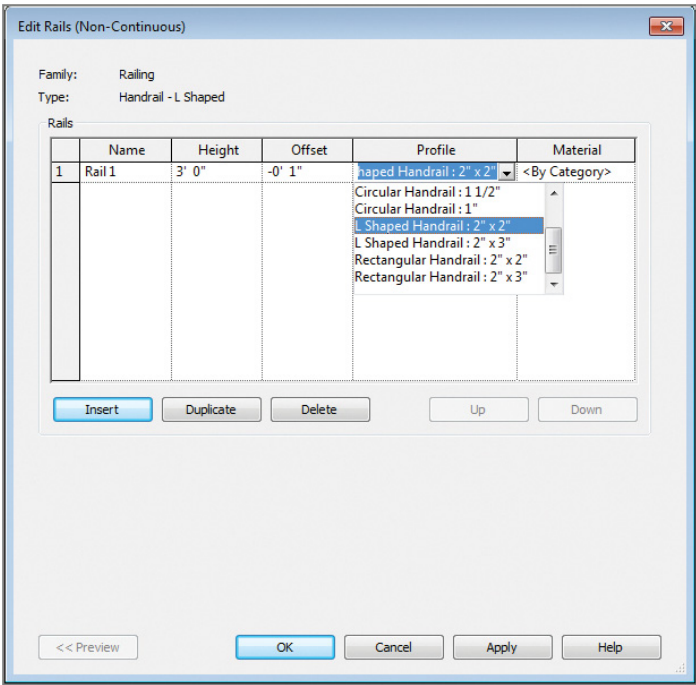

FIGURE 6.20 Editing the type properties of the railing
6. In the Type Properties dialog box, select Edit from the Rail Structure option. Doing so opens the Edit Rails dialog box (Figure 6.20). Pull down the profile menu, and select the L Shaped Handrail profile, as shown in Figure 6.20.